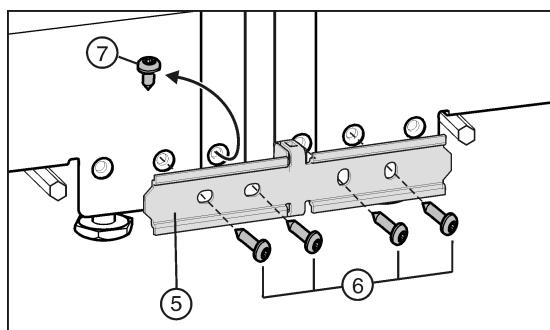

Fig. 23
- If your appliance has been fitted with the pre-fitted screw Fig. 23 (7): Undo the screw.
- Fix the connecting sheet Fig. 23 (5) loosely to one appliance with two screws Fig. 23 (6).